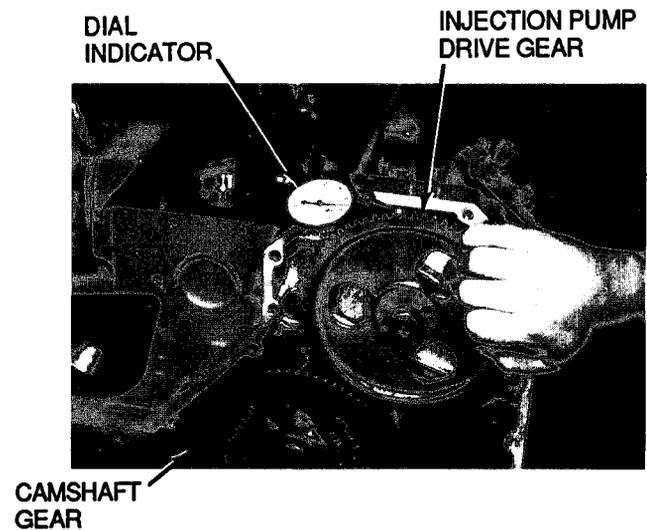

Figure 7-1
3. Use dial indicator on tooth of injection pump drive gear (Figure 7-1) and check for excessive gear backlash.